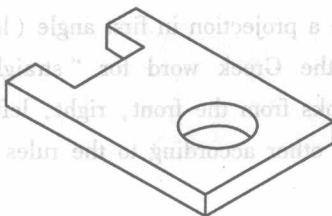

Fig. 1-3 Isometric view of the object in Fig. 1-1
along each axis of the object are equal (Fig. 1-3). It corresponds to rotation of the object by  $\pm 45^\circ$  about the vertical axis, followed by rotation of approximately  $\pm 35.264^\circ$  [ $= \arcsin(\tan(30^\circ))$ ] about the horizontal axis starting from an orthographic projection view. "Isometric" comes from the Greek for "same measure". One of the things that make isometric drawings so attractive is the ease with which 60 degree angles can be constructed with only a compass and straightedge. ③